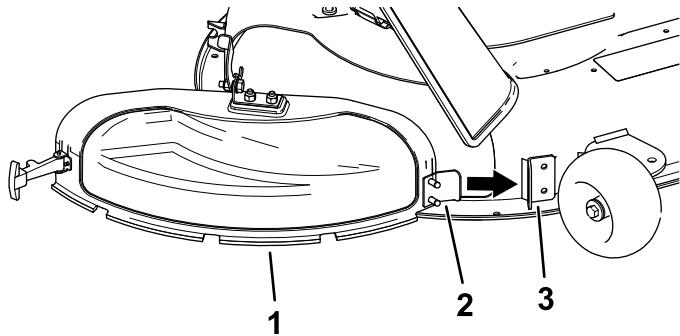

**Figure 12**
5. Angle the metal tab on the discharge cover out of the slot in the bracket welded to the mower deck (Figure 12).